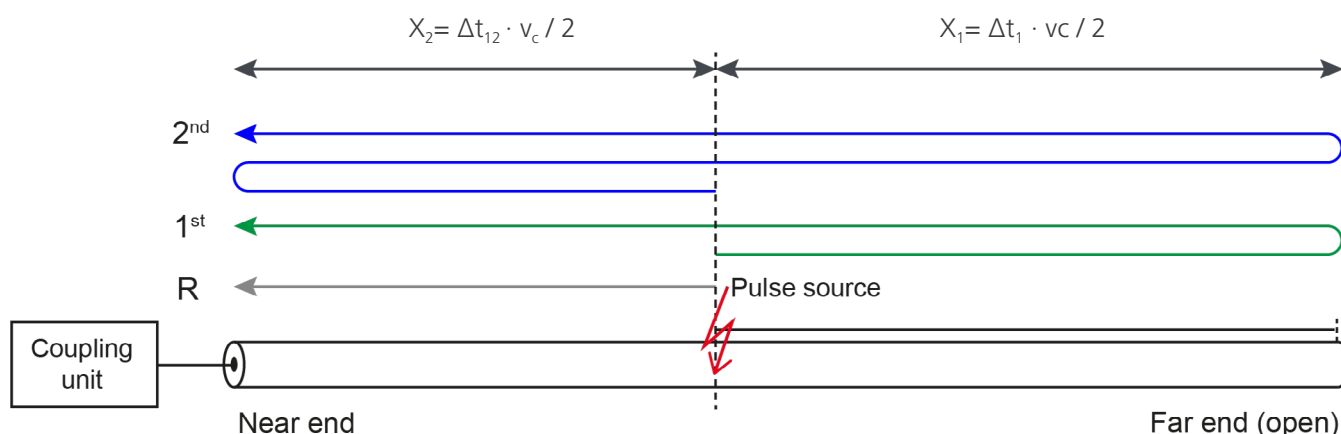

Figure 34: Propagation of a pulse in a cable
The TDR uses the travel time of pulses. Long high voltage (HV) cables behave as a wave conductor. Therefore, a pulse which is generated e.g., by a discharge, travels to both cable ends. If these ends do not have the characteristic impedance of the cable (open ends), the pulse will be reflected to the opposite end. The distance from the fault (pulse source) to the end of the cable is calculated from the time difference ( $\Delta t$ ) the two pulses occur at the measured end (coupling unit). Figure 34 shows an HV cable with a fault. The traveling ways of the first three pulses entering the coupling unit are displayed on top.